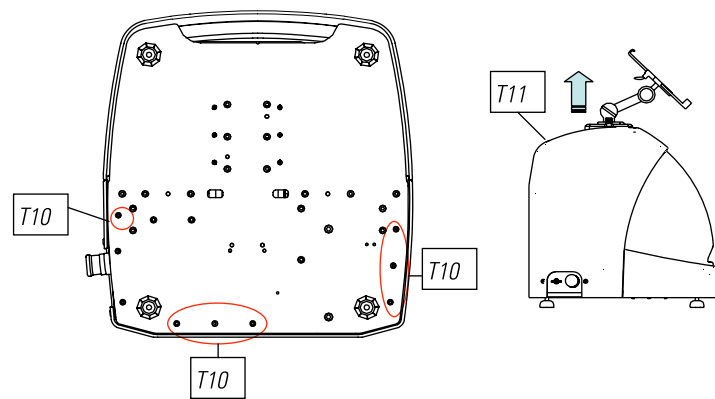

FIG. 28
- 3) Release 7 screws (T10) with a 3mm Allen key (Fig. 28)